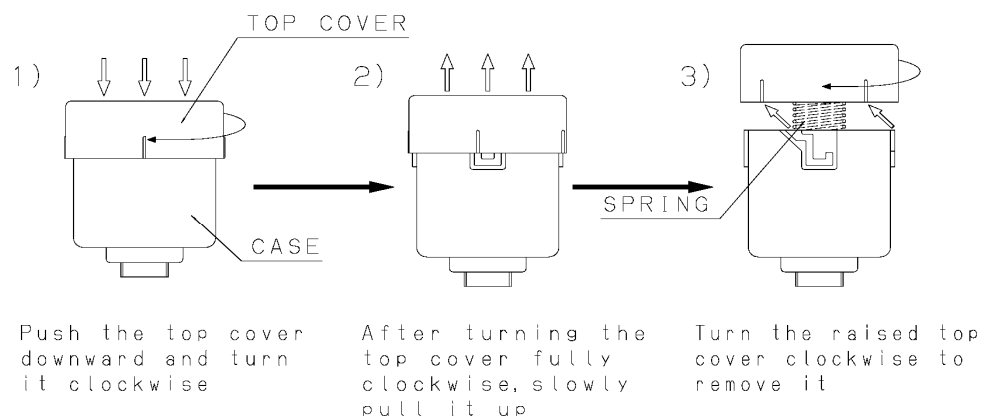

Fig. 3 Removal of top cover
- (1) Make sure that the pump is shut down.
- (2) Remove the top cover as shown in Fig. 3.